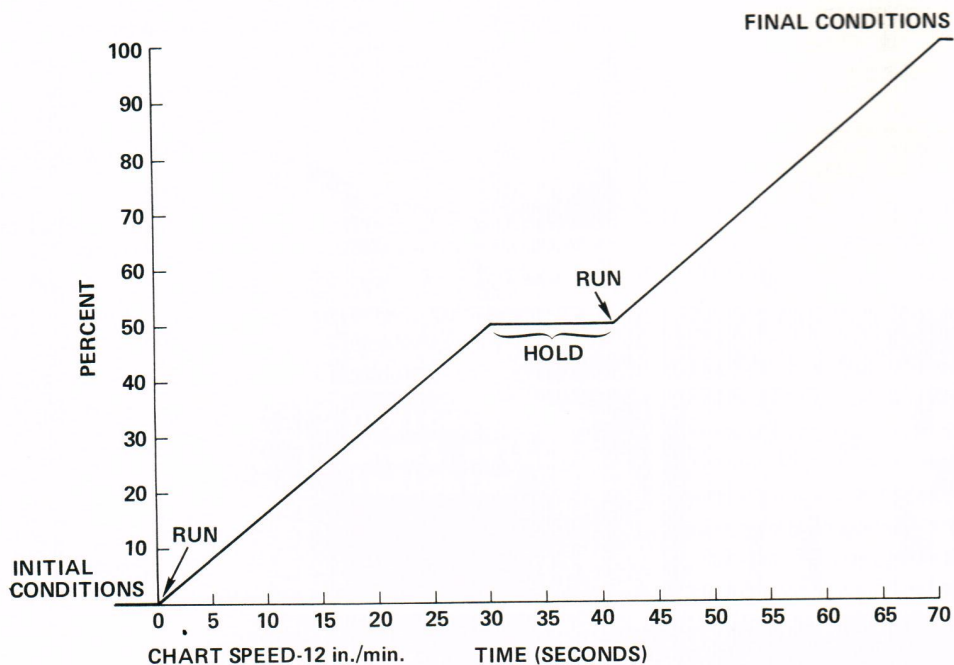

Figure 3-2. Curve '6' Profile with HOLD Pushbutton Depressed for 10 Seconds
3. The recorder pen draws a straight line on the time axis (see Figure 3-2).